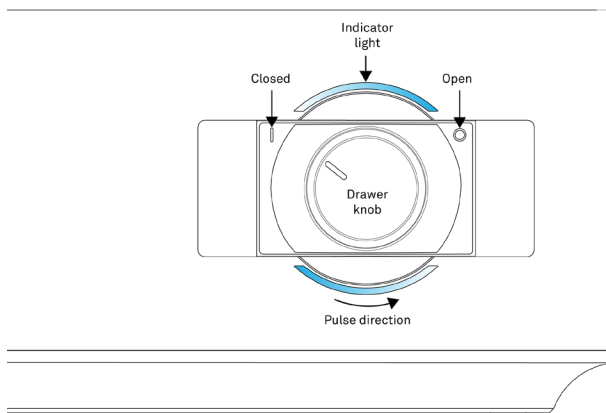

Figure 55 Front-panel drawer knob
- a. Turn the drawer knob counterclockwise (left) to the Closed position to begin the reading (Figure 55).
- Turn the drawer knob clockwise and open the drawer (Figure 55).